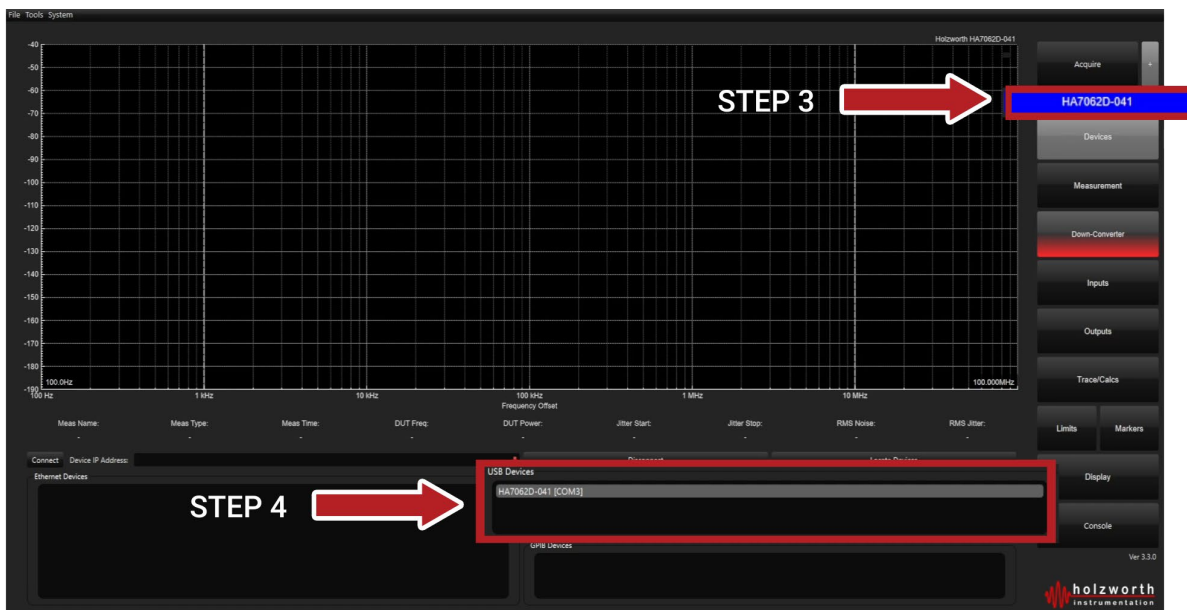

Figure 7: Complete the connection to the phase noise analyzer.
STEP 4: Once the instrument is selected, the instrument's serial number will appear in blue above the Devices menu button (Figure 7).